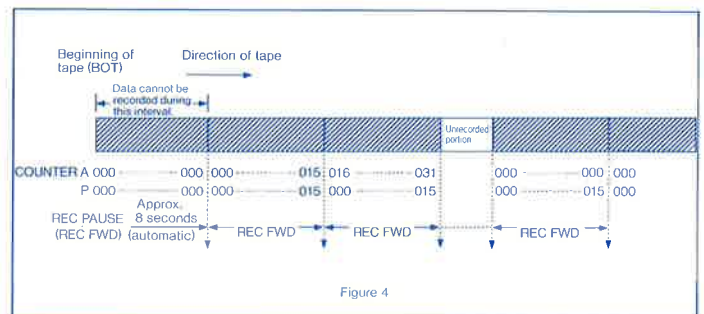

Figure 4
- A continuous counter value is recorded when continuous recording is made in the A (absolute) mode. If an unrecorded tape is used, the counter A value returns to 000 after continuous recording stops. (See Figure 4.)